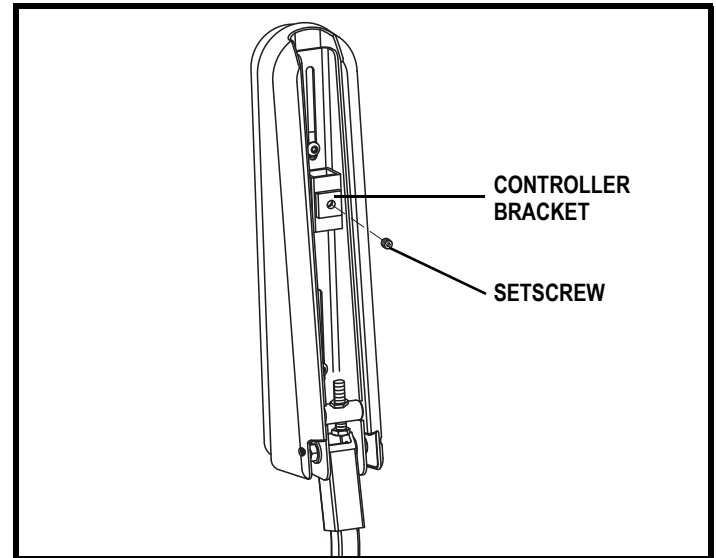

Figure 17. Controller Adjustment
2. Loosen the setscrew on the controller bracket. See figure 17.